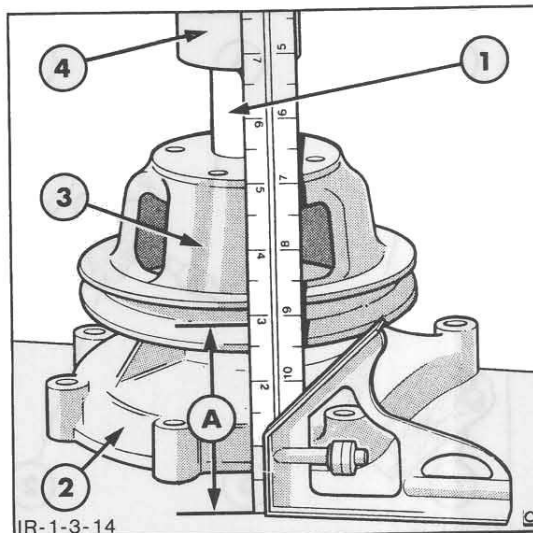

Figure 14
6. Support the shaft on a block of wood and press the pulley onto the shaft, to the dimension shown in Figure 14. This dimension is from the rear face of the front cover to the centre of the pulley V-groove. After installation, ensure the pulley runs true on the shaft.